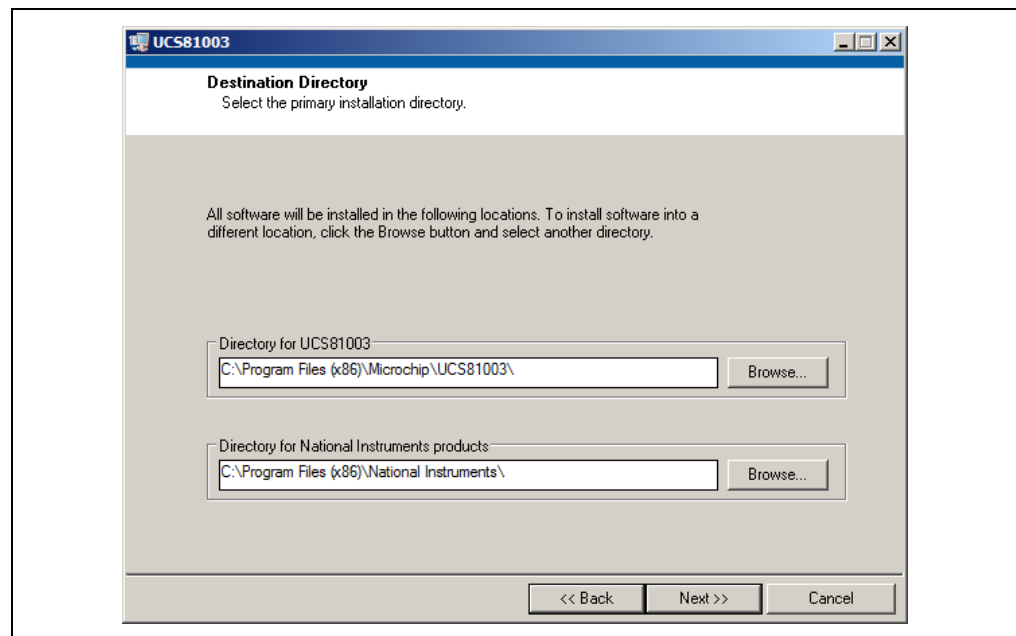

FIGURE 2-7: *Software Installation – Setting the Destination Directory.*
2. Click **Next** in the Destination Directory window, as shown in Figure 2-7. For proper operation, the files must be installed in the default locations. The default location for the software files is `C:\Program Files(x86)\Microchip\UCS81003\`, while for the LabVIEW software is `C:\Program Files(x86)\National Instruments`.